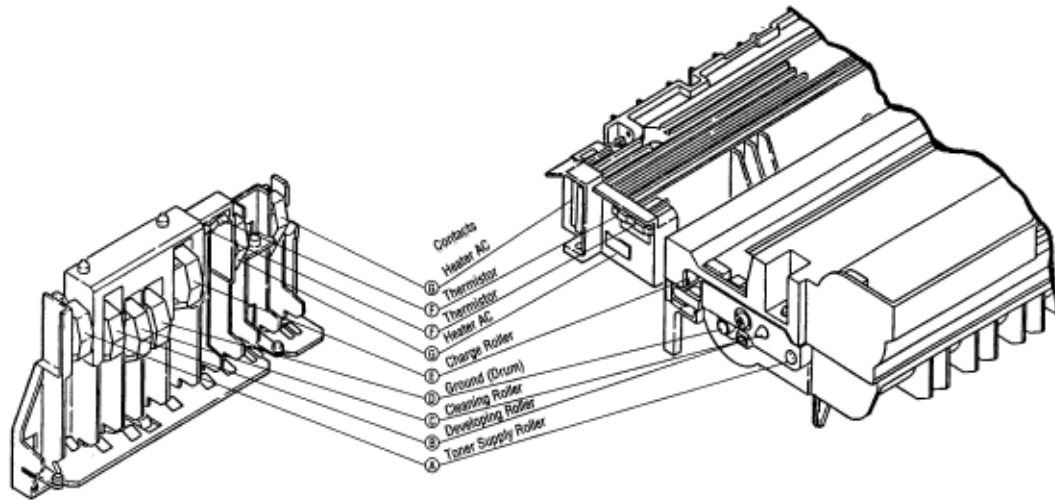

Figure 6-4
- ▼ Yes Is the contact of the image drum cartridge in proper contact with the ground contact (see Fig. 6-4 (D))?
- No Are the contacts of the toner supply roller, developing roller, image drum and charging roller in proper contact with the contact assy (see Fig. 6-4 (A), (B), (C), (D), (E))?
- ↓ Yes Is the contact of the fusing unit assy in proper contact with the contact assy (see Fig. 6-4 (G))?